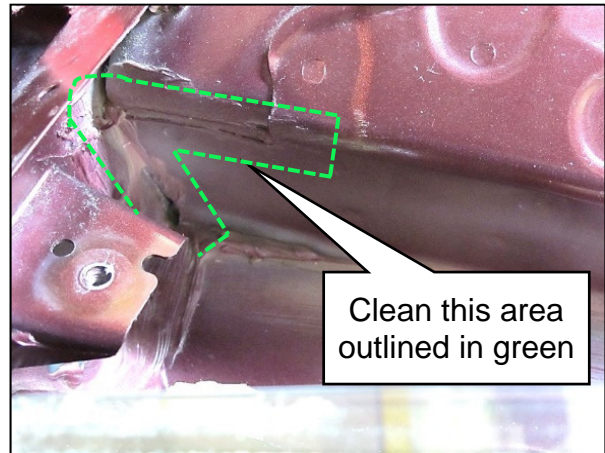

Figure 17
10. Prepare the cowl area for application of the seam sealer (Figure 17).